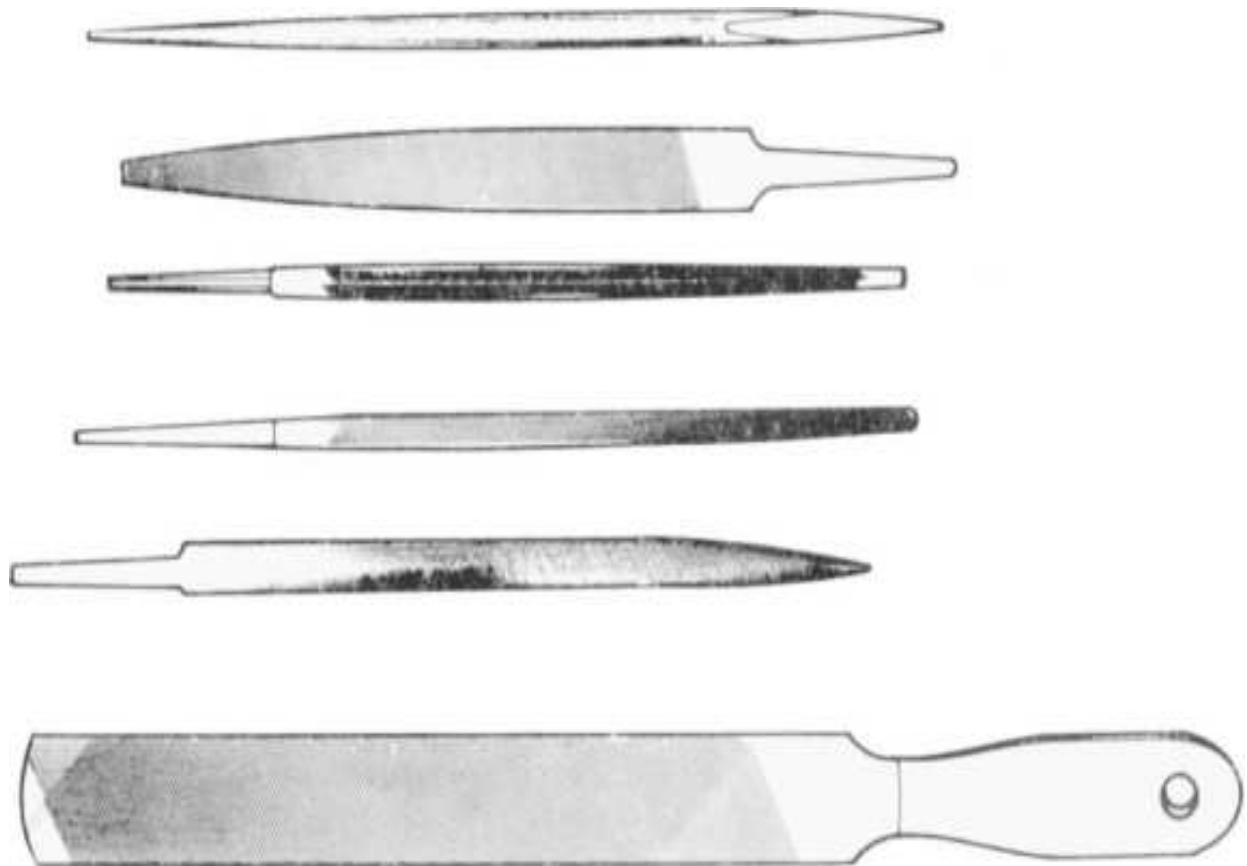

**Figure 2.9** Files can be useful for cutting keys by hand and performing many other locksmithing tasks.
- Files, assorted types and sizes (Fig. 2.9 )